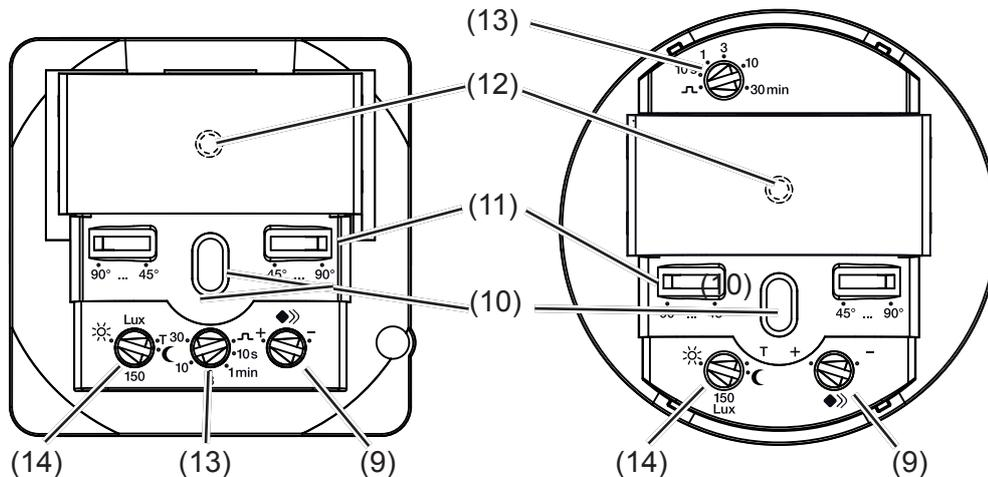
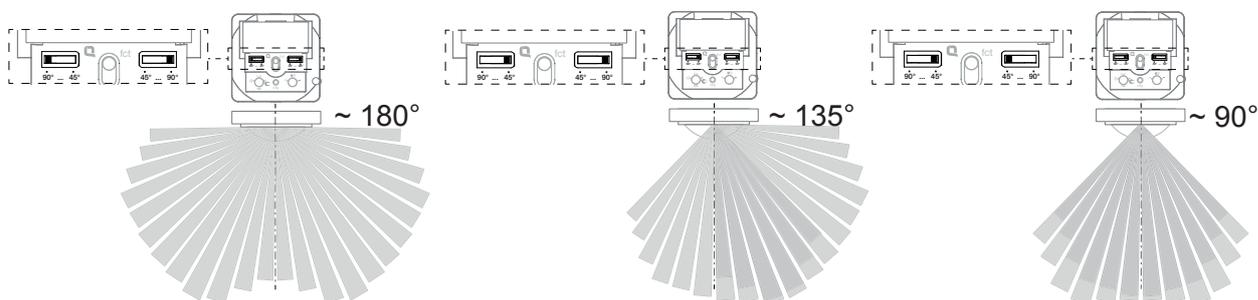

Fig. 5: Operating and adjustment elements of the bottom part of the application module
Fig. 8: Setting the detection angle
- If available, fix dismantling protection with screw (5).
- After start-up, click the design cover (4) into place on the application module (3).
- i** If start-up is to take place using a hand-held transmitter, set the response brightness potentiometer (Figure 5, 13) to the T position and then snap on the design cover.
The detection angle can be restricted for the right side and for the left side via each adjuster (Fig. 5, 10) between 45° ... 90°. Thus, the detection angle can be between 90° and 180° (Fig. 8).
- Setting the test mode. To do so, set the response brightness potentiometer (Fig. 5, 14) to the T position.
- Turn the response brightness potentiometer (Fig. 5, 14) to the desired position.
- Turn the delay time potentiometer (Figure 5, 13) to the desired position.
- Turn the delay time potentiometer (Figure 5, 13) to the position .
- Turn the sensitivity potentiometer (Fig. 5, 9) to the desired position.
- Set the response brightness potentiometer (Figure 5, 13) to the T position.